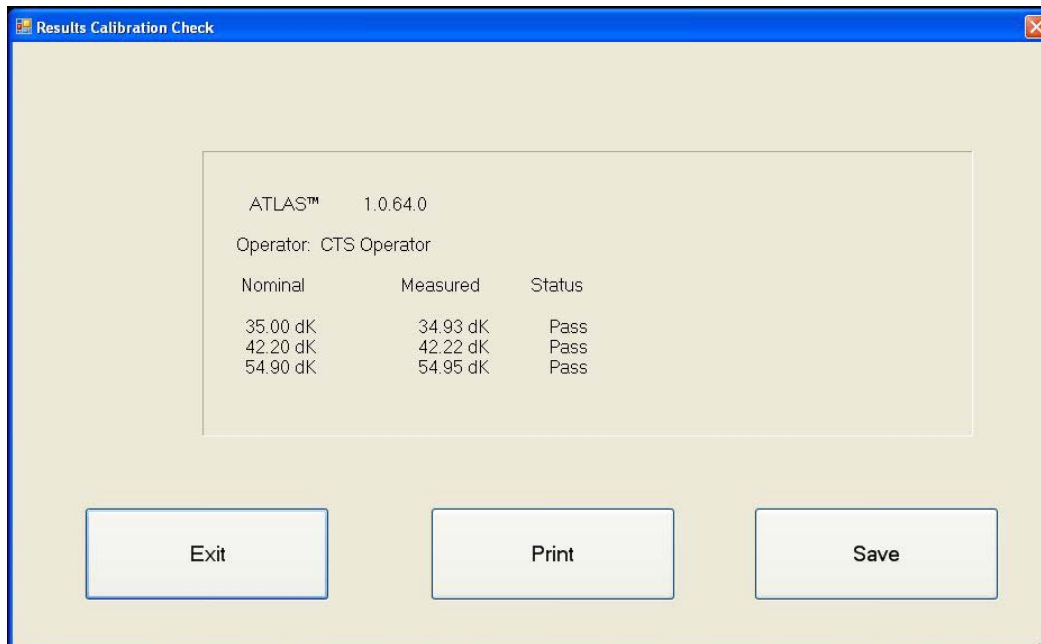

Figure 4.1 Results Calibration Check Screen
- 4) Follow the instructions on-screen to complete the calibration. Once all test spheres have been read, a Results Calibration Check Screen (Figure 4.1) will be displayed indicating your status.